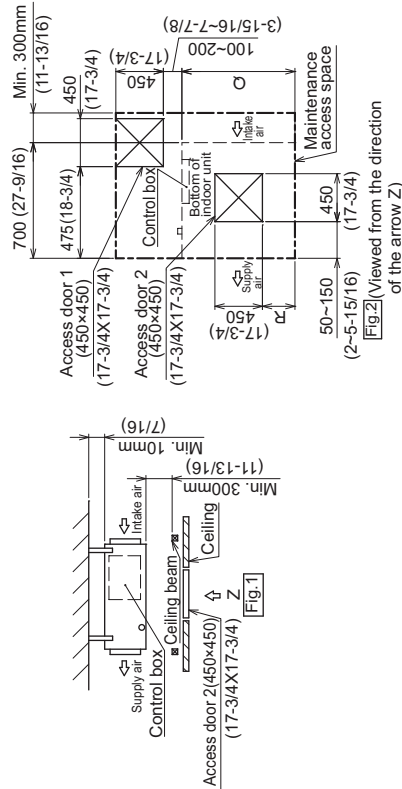

Fig.2 (Viewed from the direction of the arrow Z)
- Create access door 1 and 2 (450x450mm each) as shown in Fig.2.